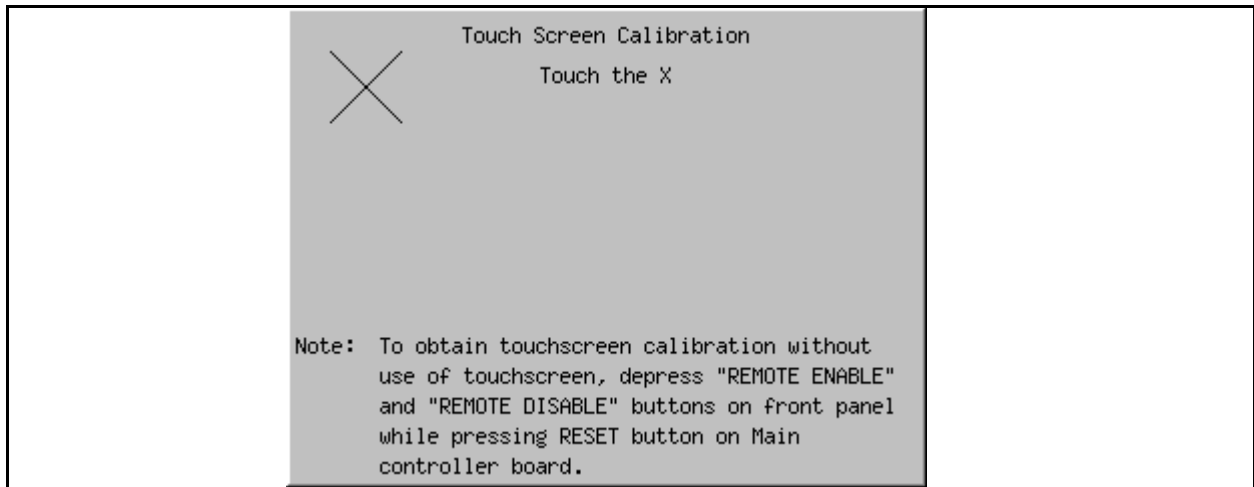

Figure 3-25 Touchscreen Calibration Screen
To Figure 3-25 &
- STEP 2** Once you see the screen in Figure 3-25, simply touch the X in the first 2 screens. This will get you to the first screen in Figure 3-26.